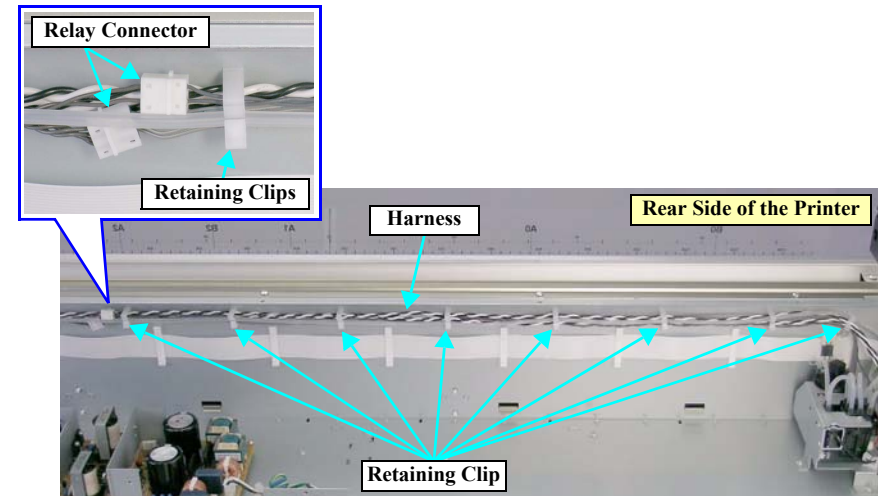

Figure 4-146. Releasing the Harnesses
2. Disconnect the connector both of the Pressure Motor and the Regulator Solenoid from the relay connectors. *See Figure 4-146.*
3. Release the harnesses both of the Pressure Motor and the Regulator Solenoid from the eight retaining clips. *See Figure 4-146.*